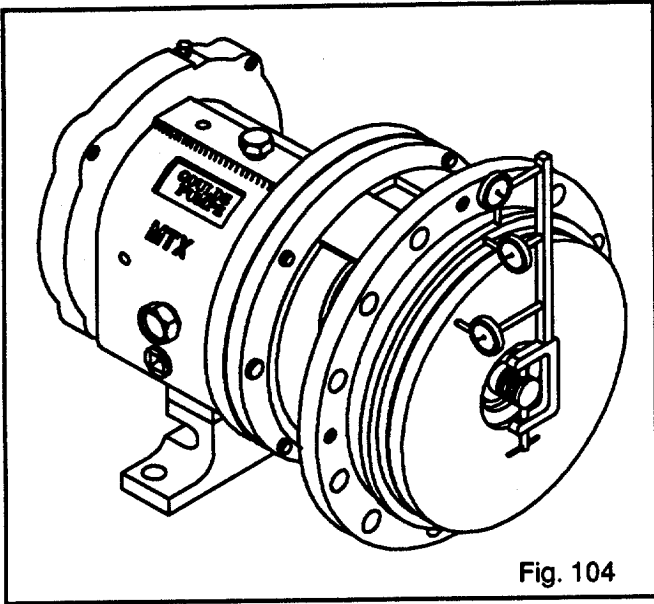

Fig. 104
9. Check stuffing box cover run-out. Rotate indicator thru all 360 degrees. Total indicator reading greater than 0.005 in. indicates a problem (Fig. 104).